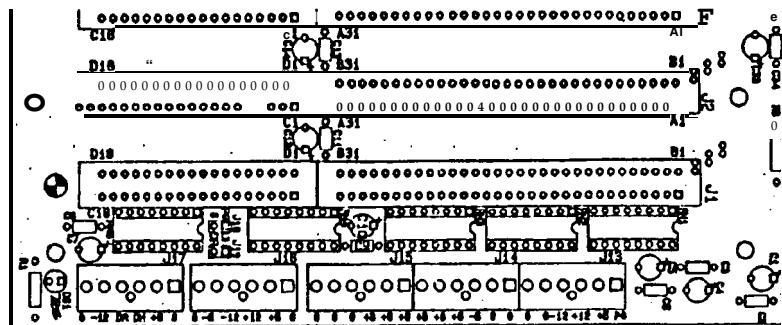

Figure 1. Computer Power Supply
15. Using your DVM (Digital Voltmeter), check the following Power Supply voltages: +5V \*0.05 V, +12V \*1.2 V and -12V \*1.2 V at the MCA Computer's Passive Backplane Board (see Figure 1 for locations where to measure Power Supply voltages). If the +5V is out of tolerance, adjust R48 on Computer Power Supply until reading is within tolerance.